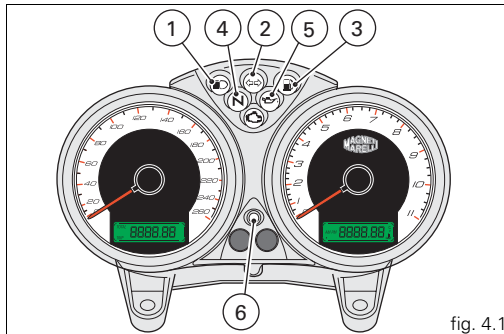
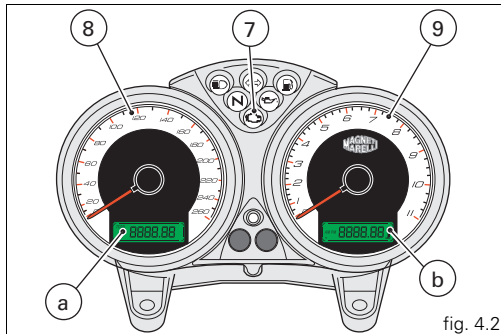
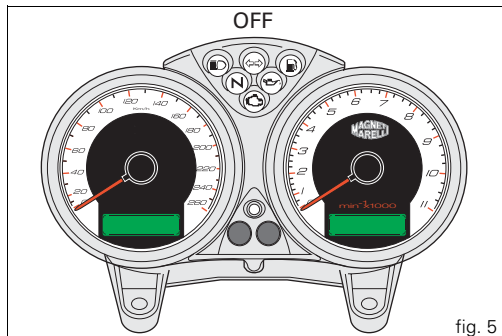
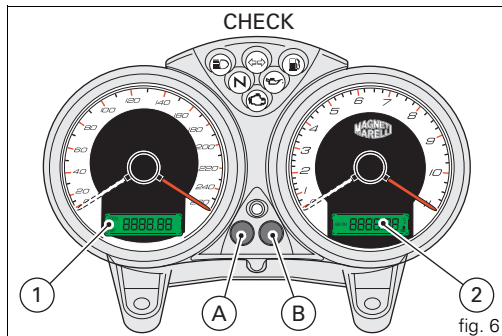

fig. 4.1
fig. 4.2
fig. 5
fig. 6
Instrument panel (fig. 4.1 and fig. 4.2)
When the engine is switched on (key turned from **OFF** to **ON**), the instrument panel checks all instruments (dials, display, warning lights), see (fig. 5 and fig. 6).
By pressing button (A, fig. 6) with the key turned to **ON**, you can cycle between display of the trip counter and the odometer and, if the fuel level warning light is on, the fuel reserve trip counter.
If button (A, fig. 6) is held pressed for more than 2 seconds while the **TRIP** (trip meter) is active, the display is reset (LCD 1).
If button (B, fig. 6) is pressed with the ignition key at **ON**, the display shows the clock and the oil temperature.
Press (B, fig. 6) for at least 2 seconds and the time will be shown in display (b, fig. 4.2).
Select AM/PM by pressing button (A, fig. 6). Press button (B) to select the hour setting function. Press (A) repeatedly to change the hour indication. Press button (B) to change to the minute setting function.
When the fuel level warning light the word "FUEL" will appear on display (2, fig. 6) and the fuel reserve trip counter function will be activated and indicate on display (1, fig. 6) the number of kilometres travelled in reserve preceded by the letter "F" (FUEL).
The appearance of the message "MAInt" on the display (1, fig. 6) indicates that the recommended service interval has expired: this message will be displayed each time the key is turned to "ON" for a period of 5 seconds. When you see this message, you should contact your Ducati dealer or authorised service centre.
Press button (B, fig. 6) within 5 seconds after the ignition key is turned to the ON position to adjust the brightness of the backlight. The brightness changes at each press of the button.
Keep the CODE CARD in a safe place. It is advisable to always carry the electronic code shown on the CODE CARD with you when using the motorcycle, in case it is necessary to override the engine immobilizer by means of the procedure that uses the throttle twistgrip. In the event of faults in the immobilizer system, the following procedure makes it possible to disable the “engine lock” function, which is indicated by the yellow-amber EOBD warning light (7, fig. 4.1). This operation is only possible with the electronic code shown on the code card.
The EOBD warning light (7, fig. 4.1) will go off after the pre-set time of 8 seconds.
Count the number of flashes of the EOBD (7, fig. 4.1) light equal to the first number of the secret code.